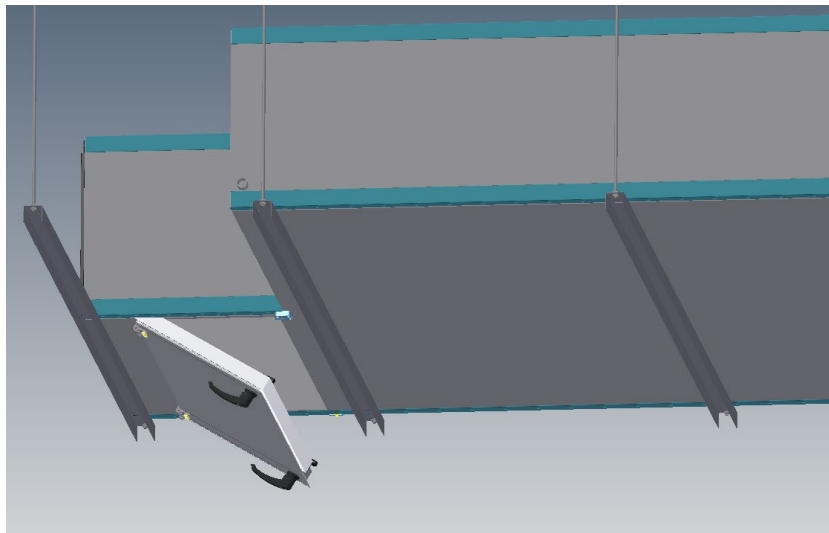
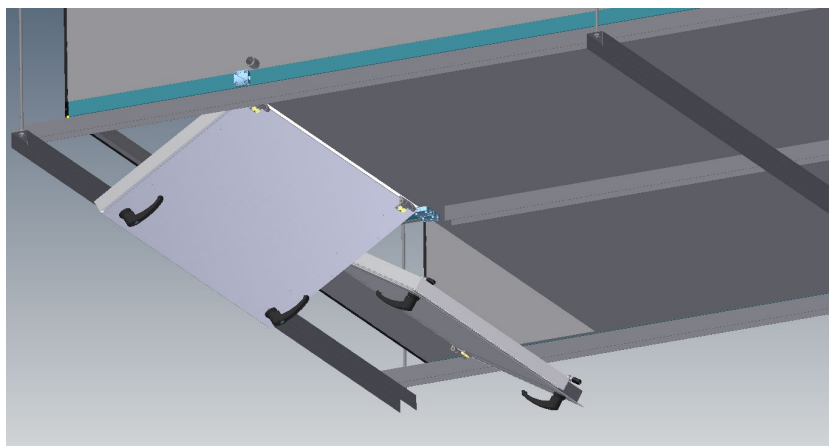

Figure 36: Suspension with transverse profiles
Figure 37: Suspension with longitudinal and transverse profiles
- The suspension can consist only of transverse profiles (transversely to the air flow), as shown in **Figure 36**, or of transverse profiles with additional longitudinal profiles (longitudinal to the air flow), see **Figure 37**.
- Profiles must be positioned so that downward-opening doors, processes of wells, etc. are not blocked by them, see **Figure 36**.